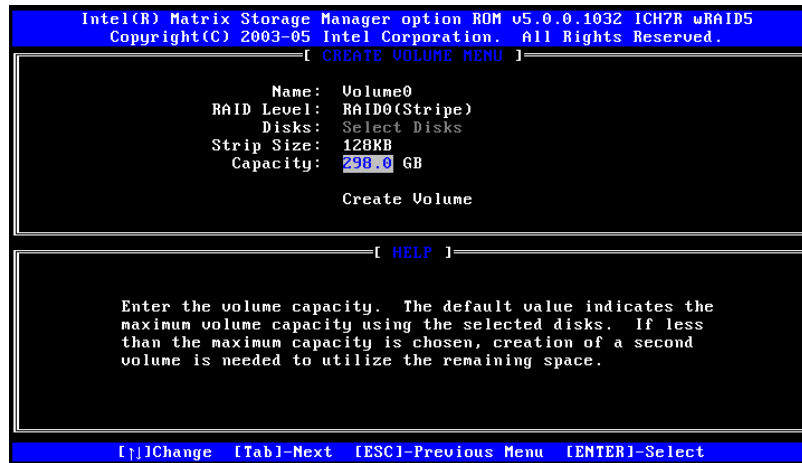

Figure A-5: Enter the Volume Capacity
Step 5: Enter the Volume Capacity. Enter the volume capacity, or press **ENTER** to accept the default capacity. See **Figure A-5**.